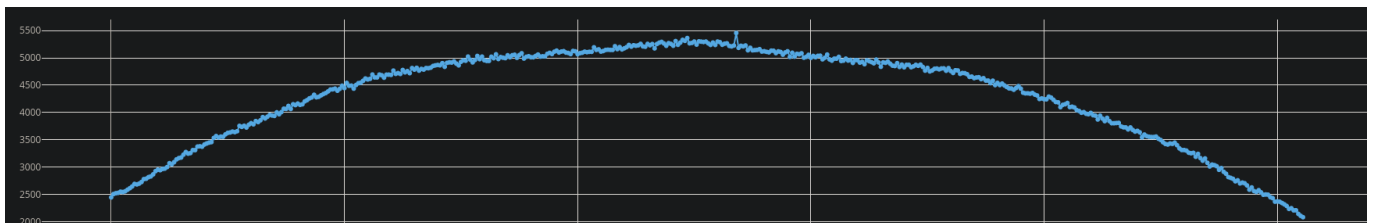

Fig1: Intensity profile across FOV, of mean projection of a stack imaged without sample and open lid, with a Luxendo LCS SPIM at 2x magnification.
Ideally, in the acquired images of a *completely uniform* sample, we would expect a flat intensity across the entire field of view (FOV). In practice, however, properties of the detection optics and/or illumination characteristics can cause local reductions of intensity in parts of the FOV. For instance, the detection objective can cause a significant, noticeable decrease of intensity going from the center of the FOV towards the edges. This is shown in the picture below (Fig1), for a Luxendo LCS SPIM at 2x magnification.
Based on these correction images, a 2D "multiplication layer" is constructed such that multiplying this layer pixel-wise onto the *correction images*, would result in a flat intensity profile across the FOV. For instance, in the picture below (Fig2), the profile of the 2D multiplication layer is shown that would approximately flatten the intensity profile in Fig1.
Fig2: Profile across FOV of 2D "multiplication layer" that would approximately flatten the intensity profile in Fig1, such that the resulting profile has roughly the original maximum intensity in Fig1 across the entire FOV (the vertical axis shows the "amplification" factor).
- **Correction images**: a stack imaged *without* sample with open lid on the same LCS SPIM, at the same magnification as used for the sample images (2x). (Same image stack for which the intensity profile is shown in Fig1.)